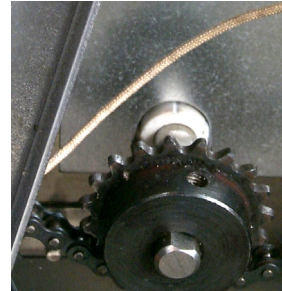

Fig: 10 Ensure brace straddles bushings surrounding roller shafts.
- Ensure brace fully straddles bushing where it protrudes from the toaster cabinet. Fig 10.